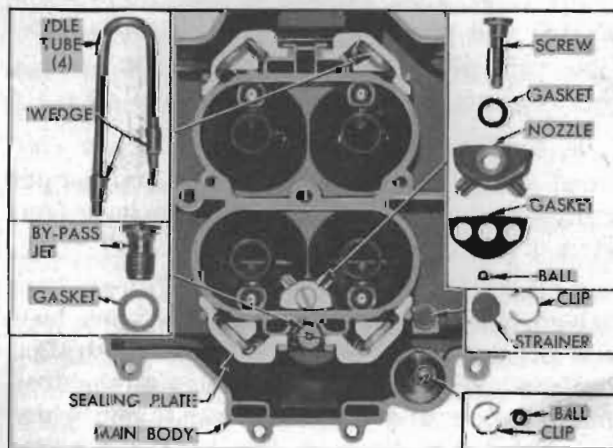

Figure 3-89—Parts in Main Body
10. Remove the four idle tube sealing plates to avoid loss, and remove the power by-pass jet. See figure 3-89.
11. Remove pump discharge nozzle screw, nozzle and gaskets. Place hand on top of main body and invert body to catch the check valve ball located in discharge channel. See figure 3-89.
12. Remove pump check valve ball retainer clip, using long nosed pliers, then remove check valve ball. See figure 3-89.
15. Place check valve ball in bottom of pump cylinder and install retainer clip, using Replacer T-25360 (fig. 3-75) or long nosed pliers. Inner end of clip must point down towards ball. See figure 3-89.
16. Install pump discharge channel check ball, then install *new* nozzle gasket, discharge nozzle, and nozzle screw with *new* gasket. See figure 3-89.
17. Install power by-pass jet with *new* gasket, and install the four idle tube sealing plates in main body. See figure 3-89.